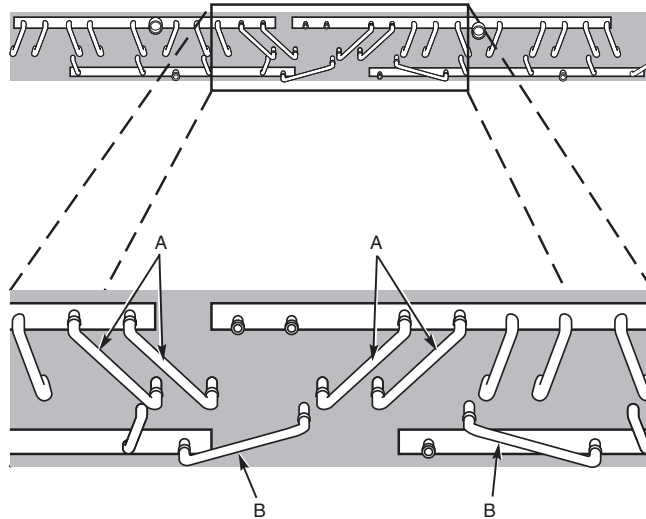

Fig. 10 — Parts Removed from 09DK028,034 (50/50%) Unit for 40/40/20% Circuiting
- a. Four $\frac{3}{8}$ -in. diam tube nipples connecting the hot gas headers to the coil. See Fig. 10, Item A.
- b. Both $\frac{3}{8}$ -in. diam tube nipples connecting the liquid headers to the coil. See Fig. 10, Item B.